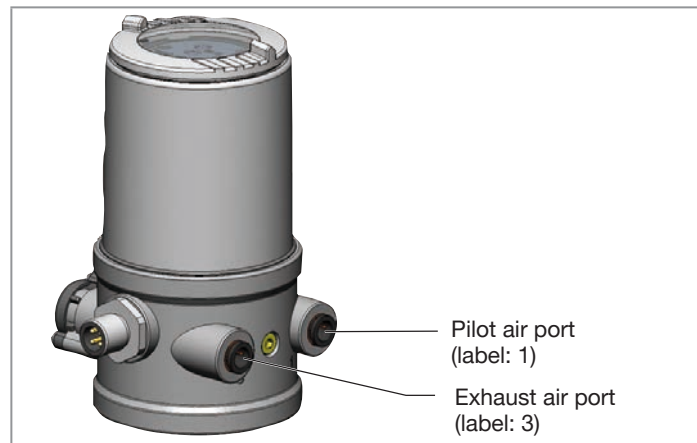

Fig. 12: Pneumatic connection
- Connect the control medium to the pilot air port (1) (3 – 7 bar; instrument air, free of oil, water and dust).
- Attach the exhaust airline or a silencer to the exhaust air port (3) (see “Fig. 12: Pneumatic connection”).